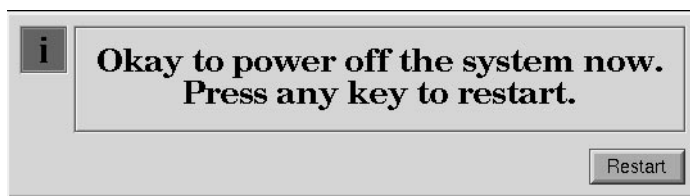

Figure 8-6 Okay to Power Off Notifier
3. After a few seconds you see the notifier shown in Figure 8-6. At this point you can power off the system by pressing the power button.